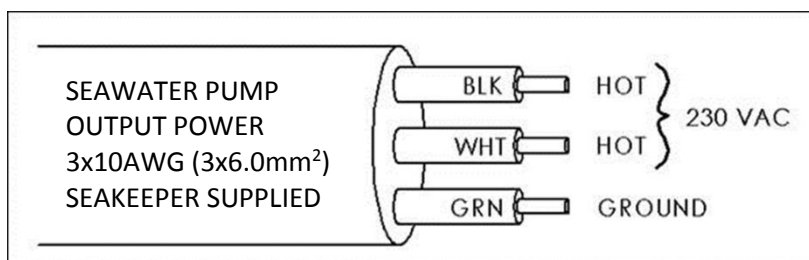
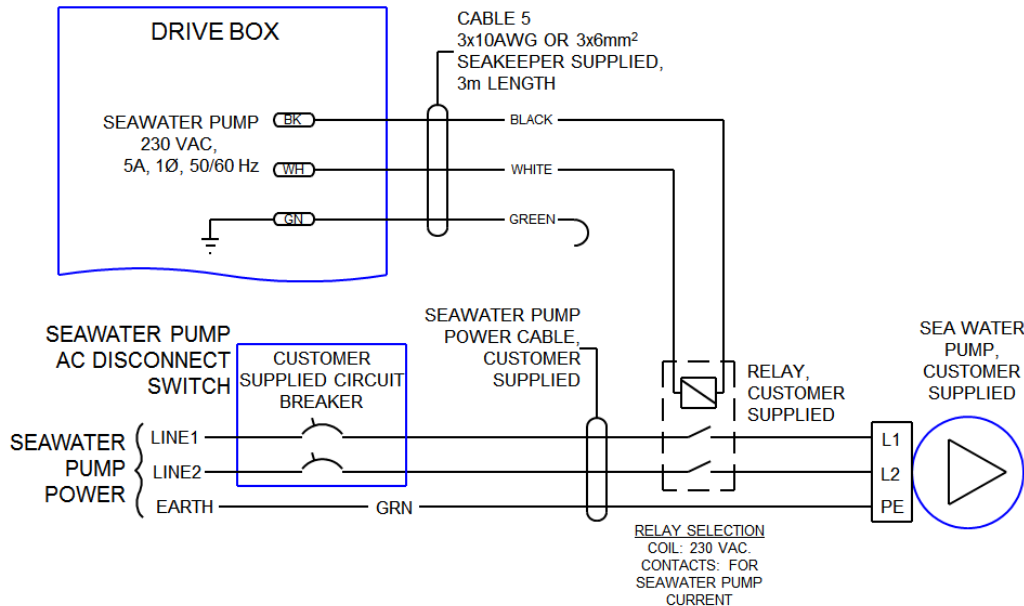

FIGURE 4 – CABLE 5, AC OUTPUT POWER CABLE
FIGURE 6 – RECOMMENDED WIRING FOR SEAWATER PUMPS NOT 230 VAC
- ii. Connect the 230 VAC wires in CABLE 5 to a 5 Amp maximum, Seawater Pump (approximately 1/3 horsepower or 250 W) according to Figures 4 and 5.
- The recommended wiring is shown in Figure 6. Refer to Figure 4 for Cable 5 wire connections.